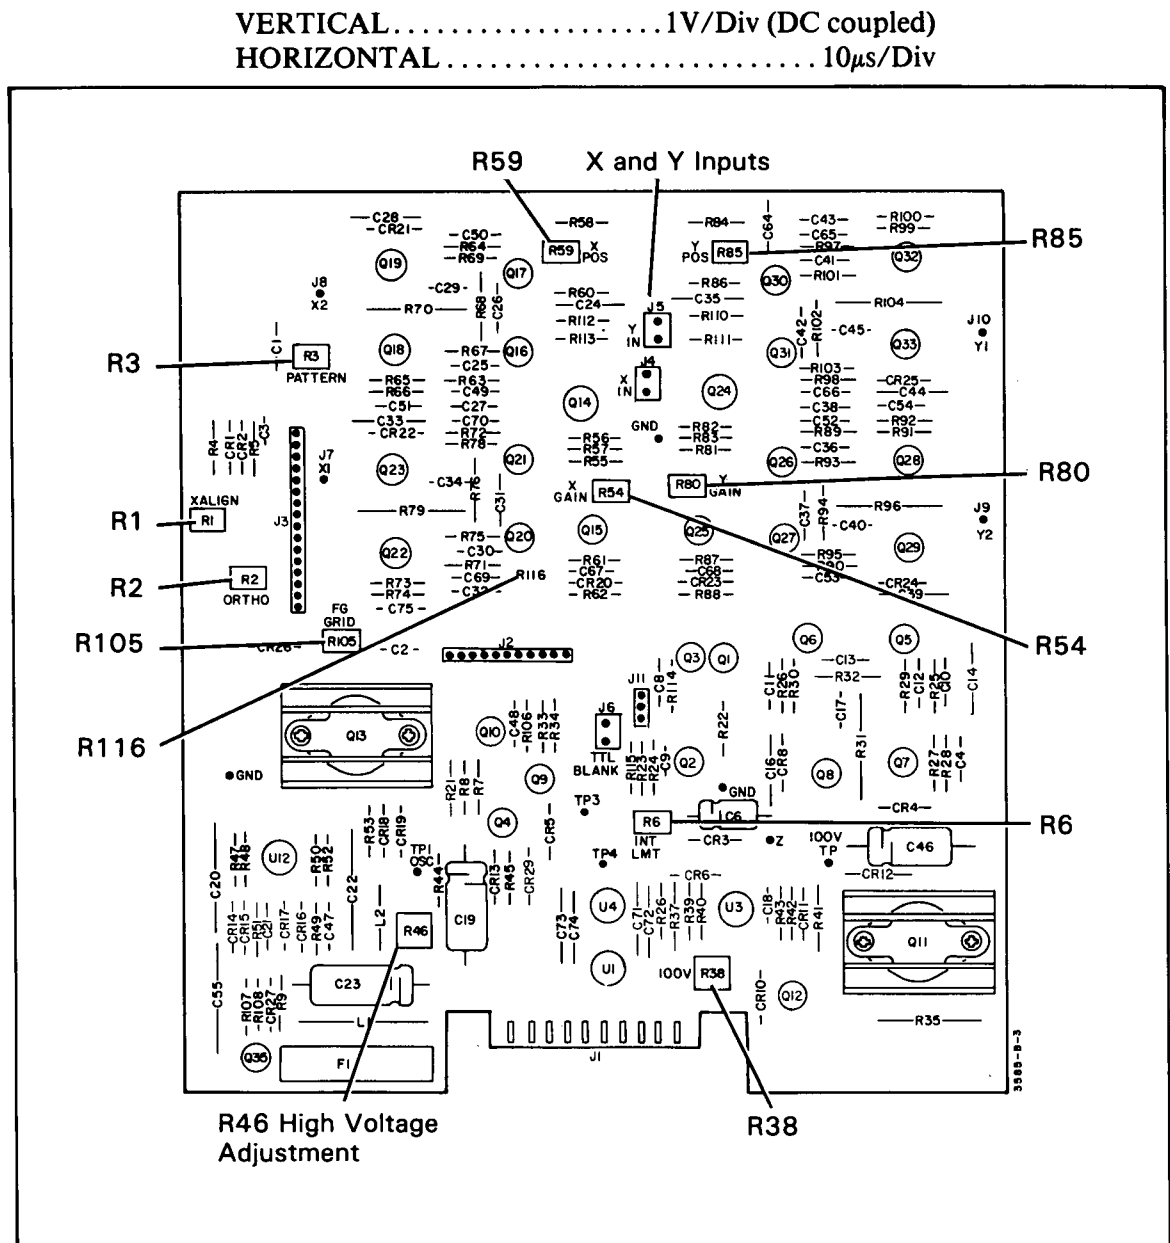

Figure 5-4. XYZ Board (A67)
- e. Adjust A67R59 (X position), A67R85 (Y position), A67R54 (X gain) and A67R80 (Y gain) so that the displayed graphics pattern is vertically and horizontally aligned with the CRT graticule. (Preliminary adjustment.) See Figure 5-4 for adjustment locations.